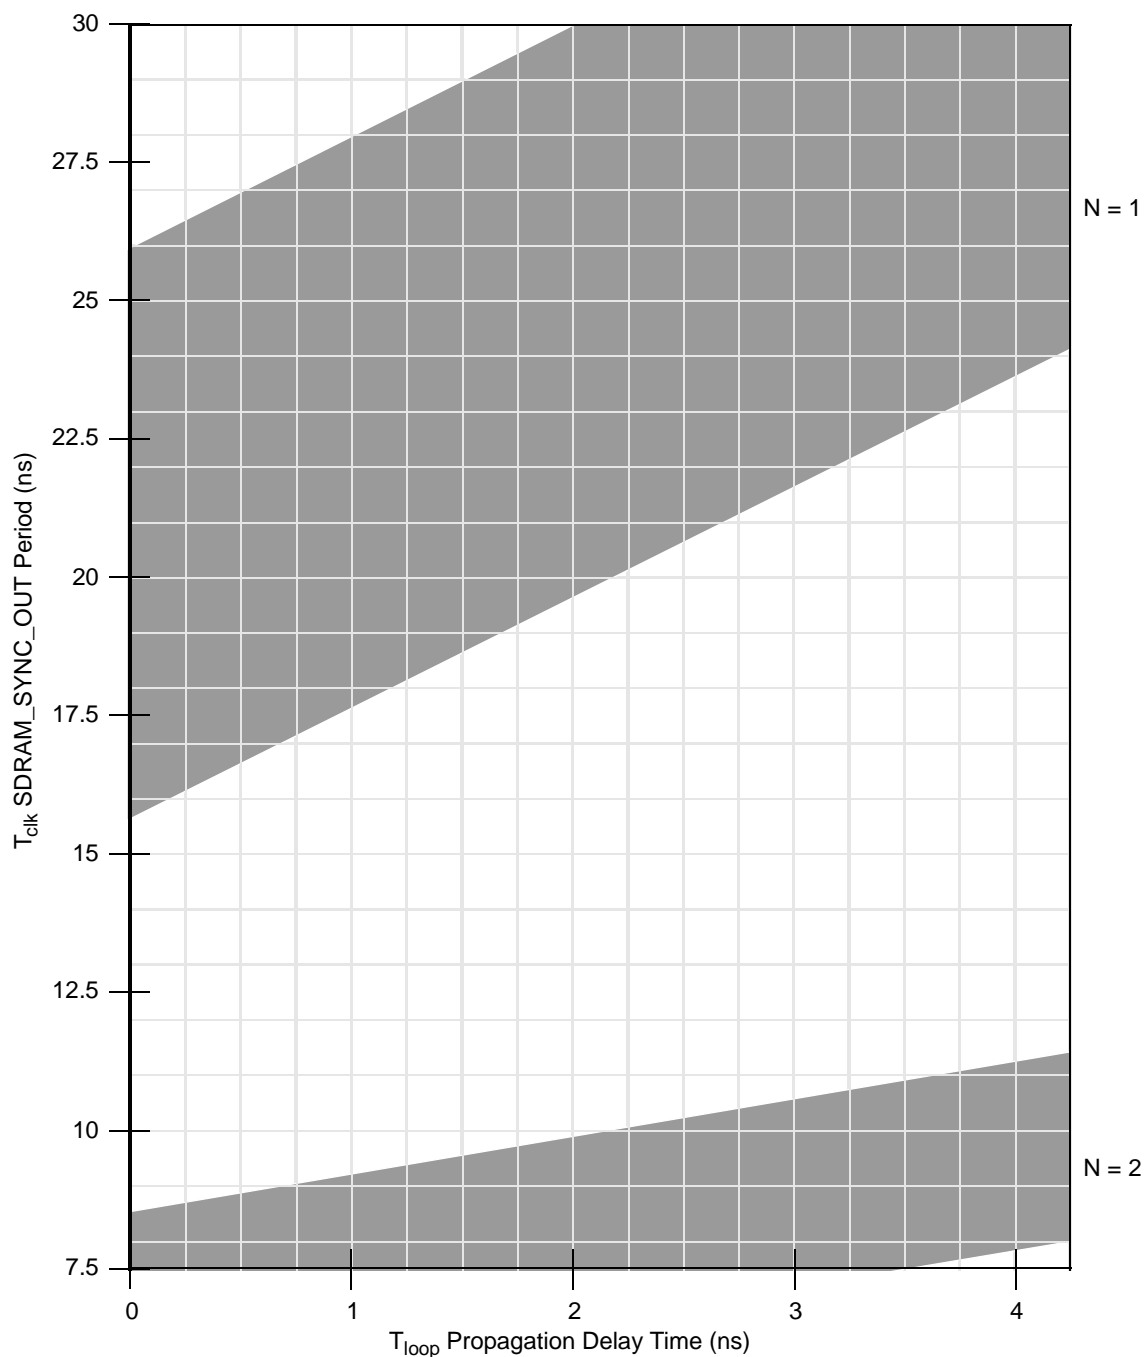
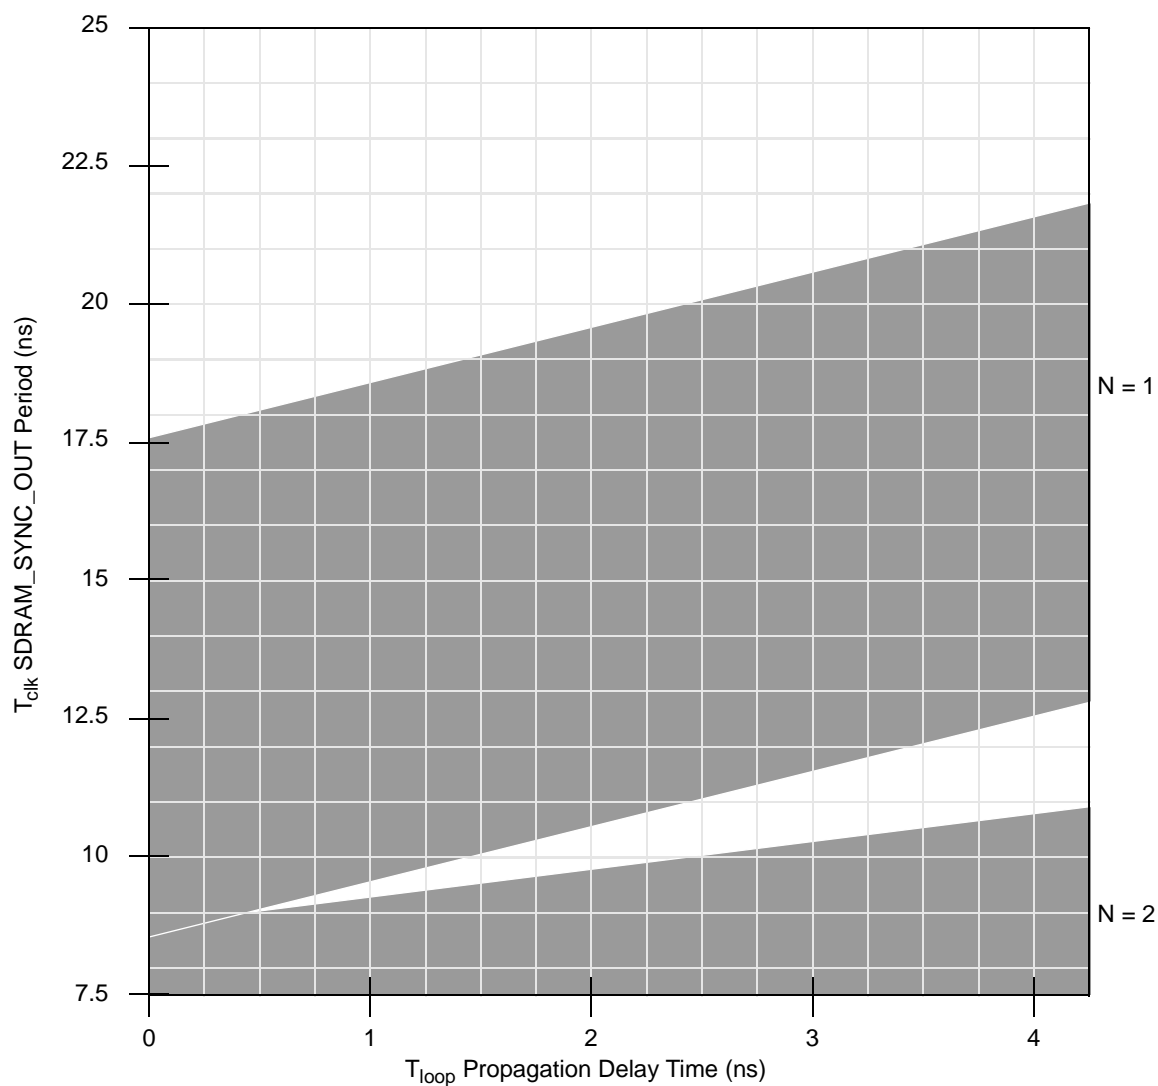

Figure 7. DLL Locking Range Loop Delay vs. Frequency of Operation for DLL_Extend = 1 and Normal Tap Delay
Figure 10. DLL Locking Range Loop Delay vs. Frequency of Operation for DLL_Extend = 0 and Max Tap Delay
6. DLL_EXTEND is bit 7 of the PMC2 register <72>. N is a non-zero integer (see Figure 7 through Figure 10). T_{clk} is the period of one SDRAM_SYNC_OUT clock cycle in ns. T_{loop} is the propagation delay of the DLL synchronization feedback loop (PC board runner) from SDRAM_SYNC_OUT to SDRAM_SYNC_IN in ns; 6.25 inches of loop length (unloaded PC board runner) corresponds to approximately 1 ns of delay. $T_{dp}(\text{max})$ and $T_{dp}(\text{min})$ are dependent on tap delay. See Table 9 for values of $T_{dp}(\text{max})$ and $T_{dp}(\text{min})$. See Figure 7 through Figure 10 for DLL locking ranges. Refer to Motorola Application Note AN2164, *MPC8245/MPC8241 Memory Clock Design Guidelines*, for more details on memory clock design.
Figure 6 shows the PCI_SYNC_IN input clock timing diagram and Figure 7 through Figure 10 show the DLL locking range loop delay vs. frequency of operation.
Figure 7 through Figure 10 show the DLL locking range loop delay vs. frequency of operation. These graphs define the areas of DLL locking for various modes. The grey areas represent where the DLL will lock.
- T_{OS} represents a timing adjustment for SDRAM_SYNC_IN with respect to sys_logic_clk. Due to the internal delay present on the SDRAM_SYNC_IN signal with respect to the sys_logic_clk inputs to the DLL, the resulting SDRAM clocks become offset by the delay amount. The feedback trace length of SDRAM_SYNC_OUT to SDRAM_SYNC_IN must be shortened by this amount relative to the SDRAM clock output trace lengths to maintain phase-alignment of the memory clocks with respect to sys_logic_clk. Note that the DLL locking range graphs of Figure 7 through Figure 10 compensate for T_{OS} and there is no additional requirement to shorten T_{loop} by the duration of T_{OS} . Refer to Motorola Application Note AN2164, *MPC8245/MPC8241 Memory Clock Design Guidelines*, for more details on accommodating for the problem of T_{OS} and trace measurements in general.